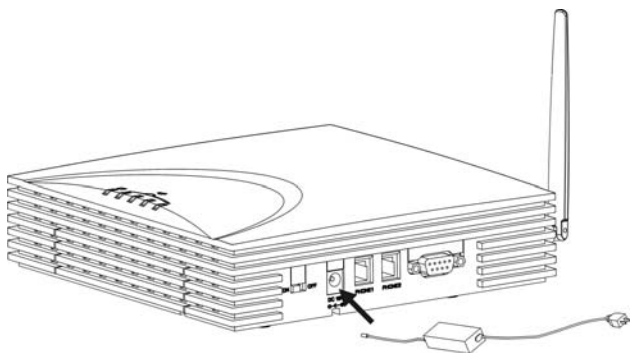

Figure 4-4 Connecting the power adapter with ETS1000 Series FWT
In normal conditions, ETS1000 Series FWT depends on an external power adapter for power supply and will use the spare battery only in the case that the electricity has failed and the external power adapter is unavailable. As the spare battery can supply power only for a limited period, you must make sure that the battery has been fully charged before putting it into use. You can connect the power adapter to the terminal as shown in Figure 4-4.
3. Insert one end of the power cord of the power adapter into the DC input port in the direction shown in Figure 4-4, and the other end into the power supply jack.